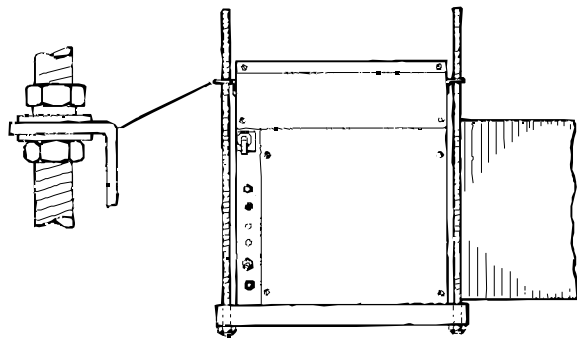

FIG.2.
**IMPORTANT:** The stabilizing brackets provided **MUST** be used when suspending a unit. Fit the stabilizing brackets to the top corners of the backpanel and front face using the No. 10 screws provided, (2 per bracket). If these brackets are omitted the unit will be subject to unacceptable movement on compressor start (Fig. 2).
Using the template printed on the side of the packing carton, (centres marked A), mark out the ceiling and drill 4 holes to suit M8 screwed rod, (see Fig. 1). Raise the unit to the required height and pass the screwed rods through the mounting holes in the units feet and stabilizing brackets. Secure the unit with a nut and washer on either side of each stabilizing bracket and two nuts and washers underneath each foot mounting hole, (Fig. 2).